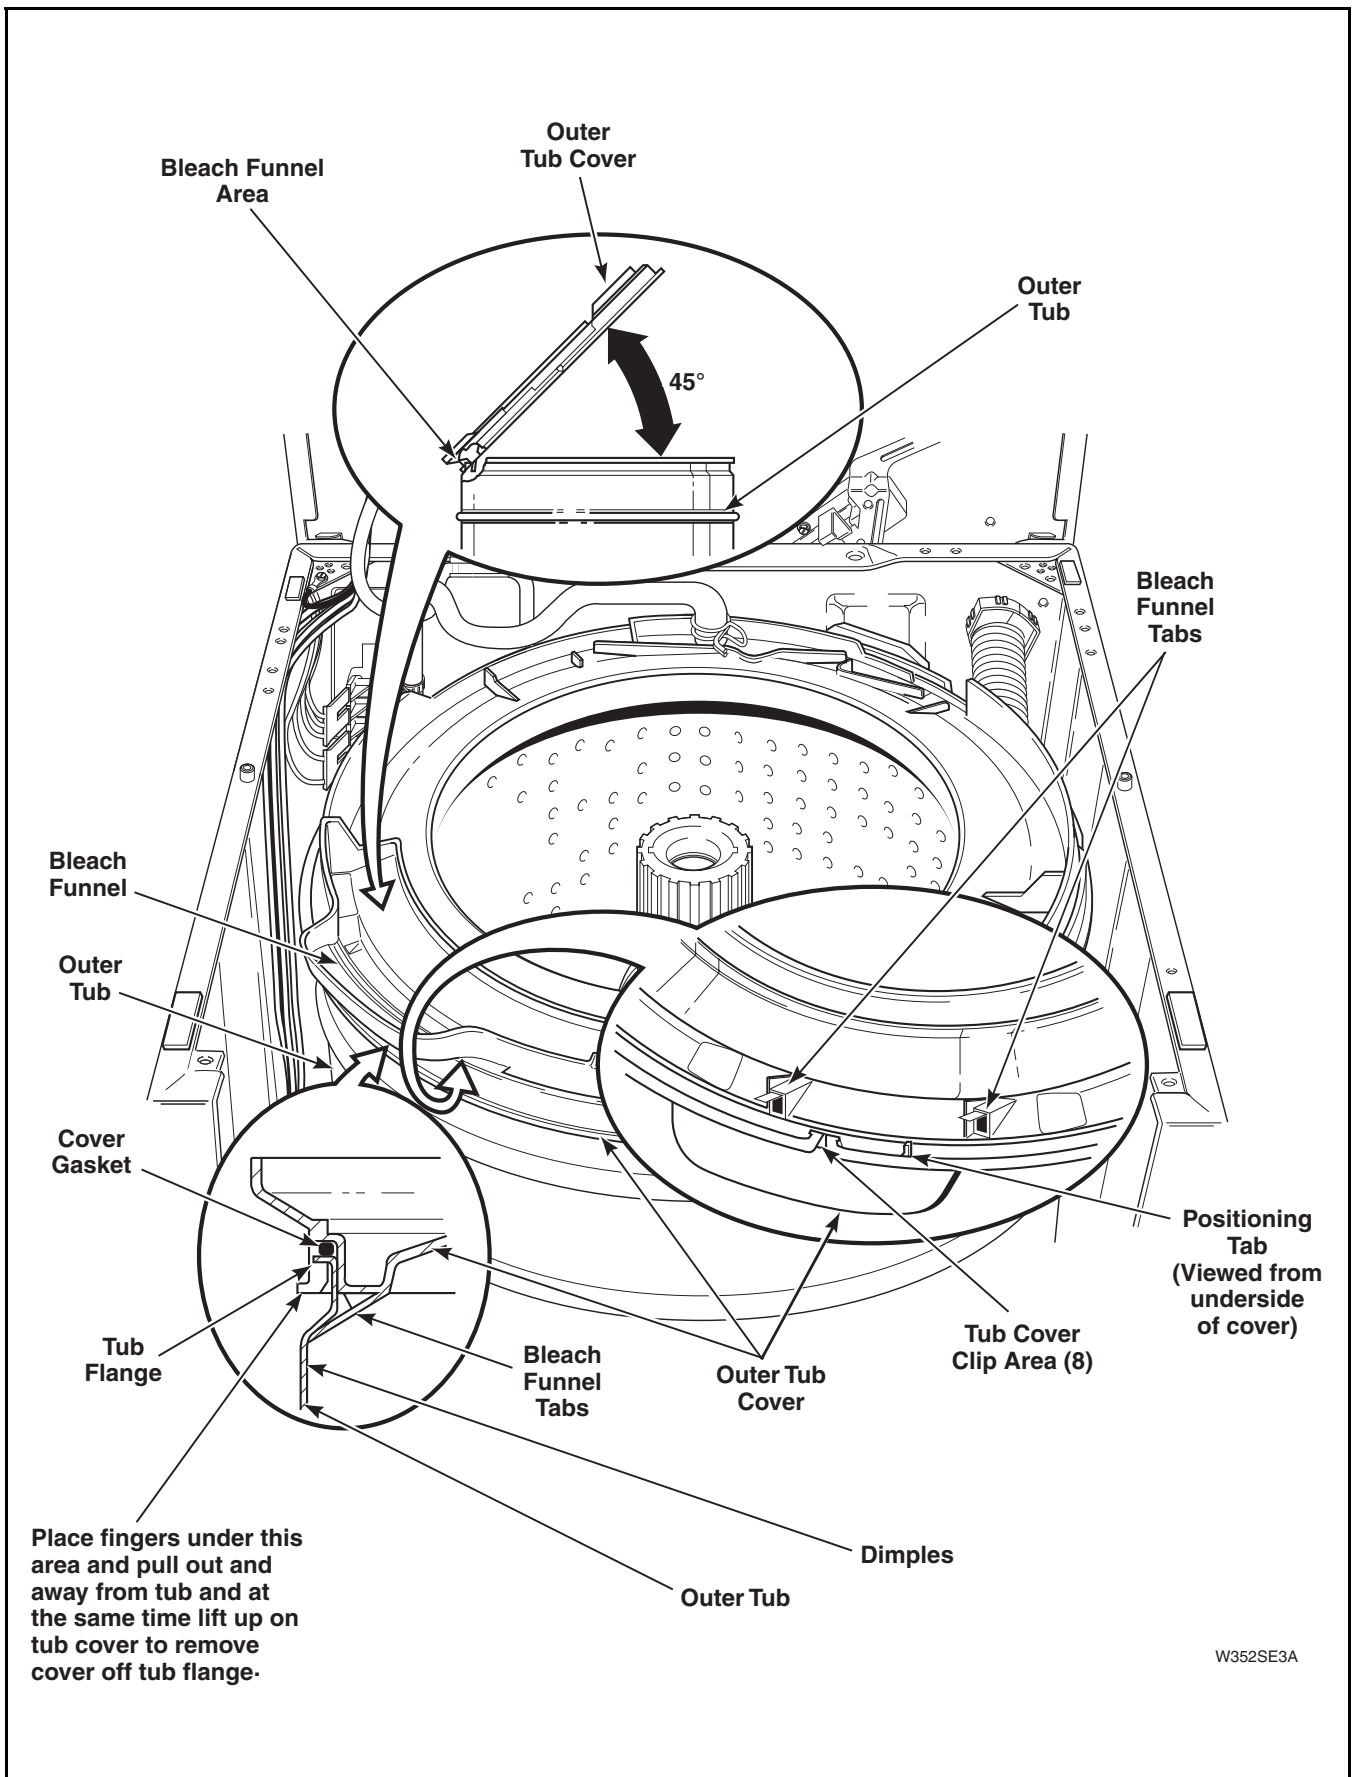

Figure 34
- j. With tub cover tilted at approximately a 45 degree angle, insert the positioning pin into notch on outer tub flange. Refer to *Figure 34*.
- (6) With tub cover tilted at approximately a 45 degree angle, insert the positioning pin into notch on outer tub flange. Refer to *Figure 34*.